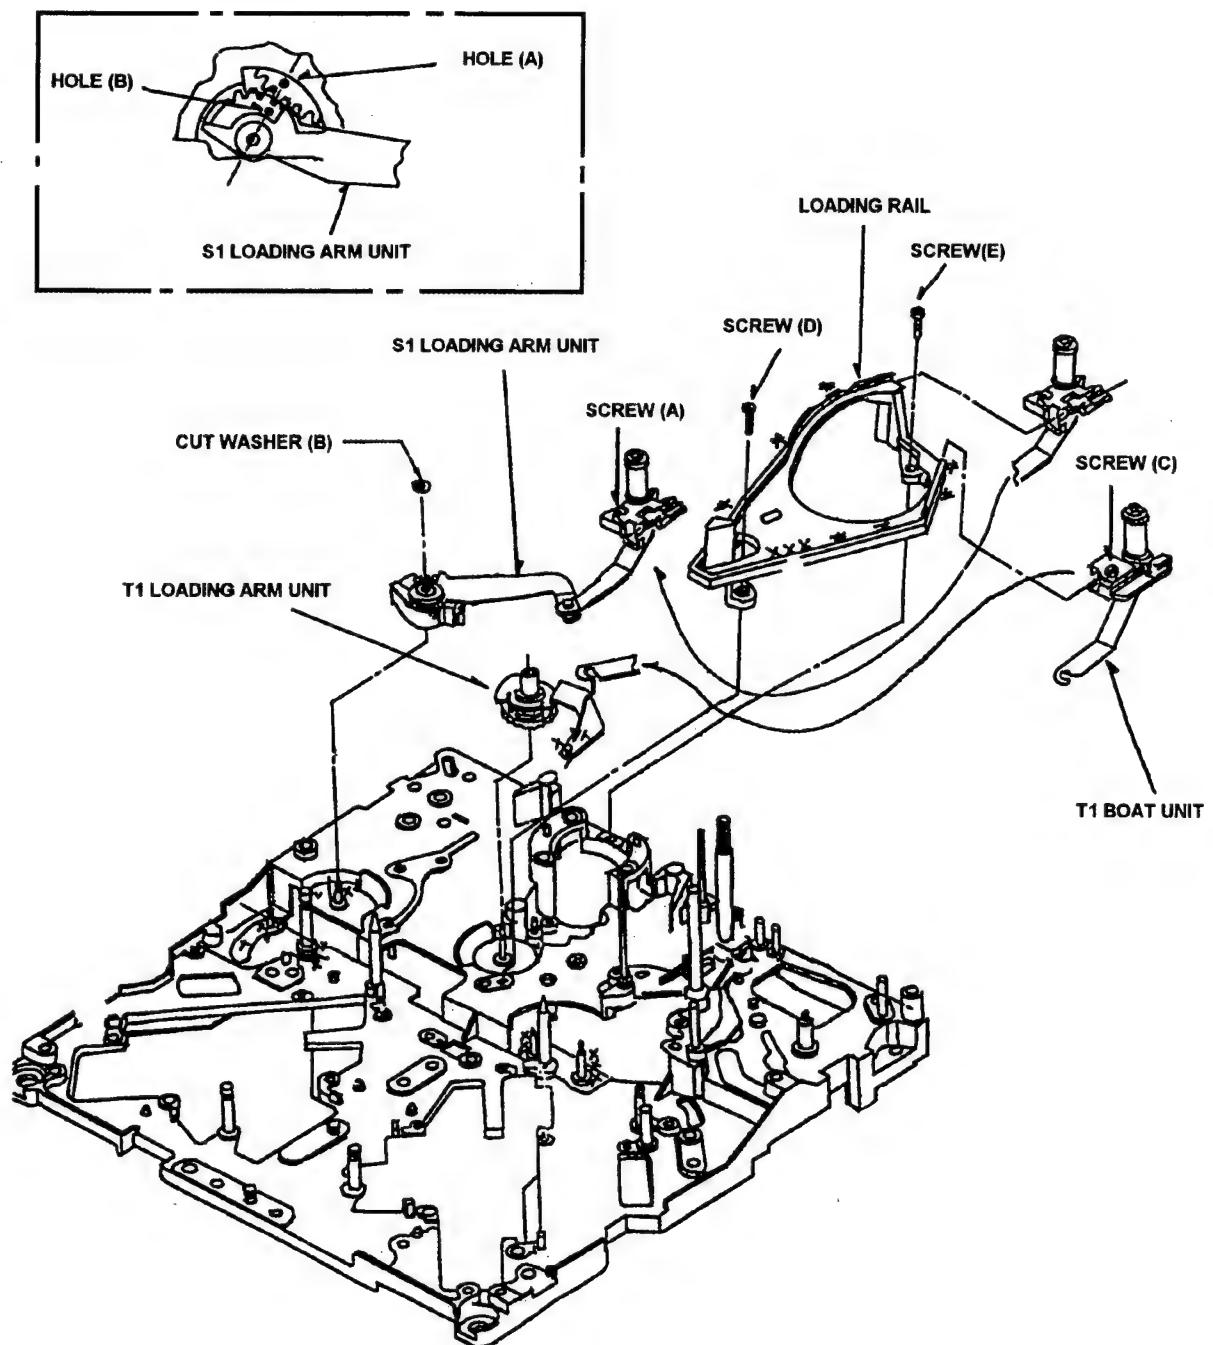

Fig. 4-13-1 Removal of S1 Post Loading Arm Unit
1. Remove the Mechanical Unit (Refer to item 2-1, Removal of Mechanical Unit).
2. Remove the S5 Post Base Unit (Refer to item 4-17).
3. Unscrew the screw (A) and remove the S1 Post from Loading Rail as shown in Figure 4-13-1.
4. Remove the Cut Washer (B) and remove the S1 Loading Arm Unit as shown in Figure 4-13-1.
When install the S1 Post Loading Arm Unit, then the hole (A) should be matched hole (B) as shown in Figure 4-13-1.
2. Unscrew the screw (C) and remove the T1 Post from Loading Rail as shown in Figure 4-13-1.
3. Hang off the T1 Boat Unit from T1 Loading Arm Unit as shown in Figure 4-13-1.
2. Remove the cylinder Unit (Refer to item 4-1).
3. Move the T1 Post to loading direction by manual ejecting method until the screw (D) can be removal position as shown in Figure 4-13-1.
4. Unscrew the 2 screws (A) and (C), then remove the S1 and T1 Post from Loading Rail as shown in Figure 4-13-1.
5. Unscrew the 2 screws (D) and (E), then remove the Loading Rail as shown in Figure 4-13-1.
6. Remove the T1 Loading Arm Unit as shown in Figure 4-13-1.